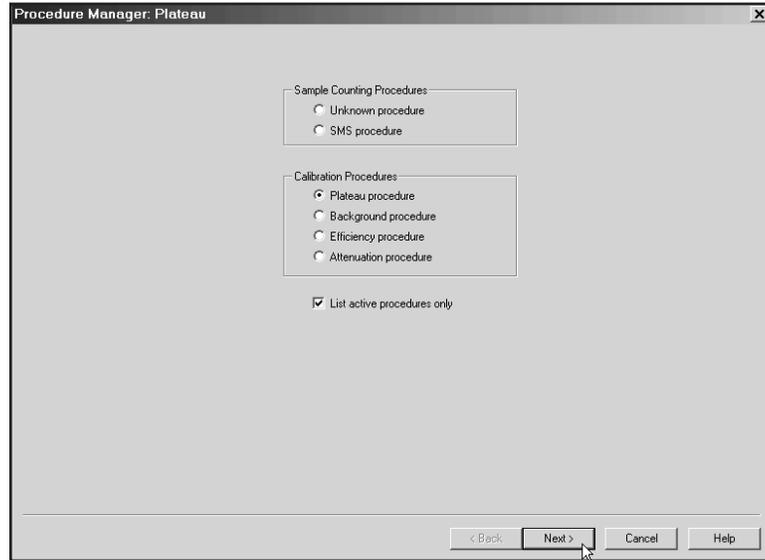

Figure 40 Selecting the Plateau Procedure
From the **Manage** menu, choose **Procedures** or from the toolbar select the **Procedure Manager (PM)** button. The initial Procedure Manager screen (Figure 40) appears. A plateau calibration procedure is initiated by clicking on *Plateau procedure* and then **Next**.